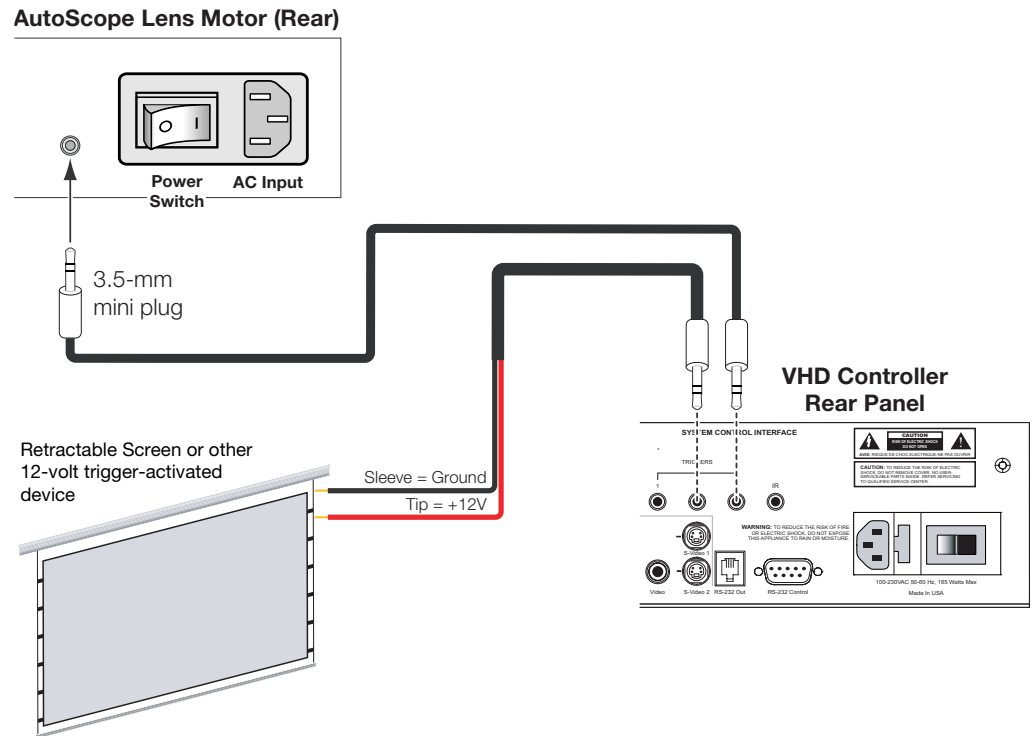

Figure 3-15. Connecting 12-Volt Trigger Outputs
If your Vision 150 is equipped with a CineWide with AutoScope system, connect the AutoScope lens motor to a 12-volt trigger output on the VHD Controller; see Figure 3-15.
- 3. If this is an AutoScope-equipped projector, turn on the main power switch at the rear of the AutoScope lens motor. The lens motor power switch is located next to the AC input (see Figure 3-15).